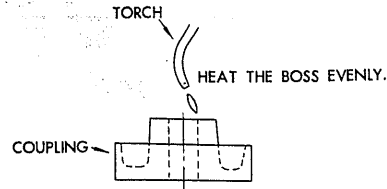

Fig. 1 Heating of Coupling for Shrinkage Fitting
4. Expand the boss of coupling by heating with a torch or heater. See Fig. 1.